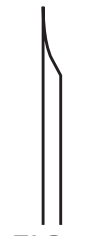

FIG. 6
- Step 5:** Cut stainless wire 8" longer than overall length of material. Cut one end of wire to create a sharp point as shown in figure 6.